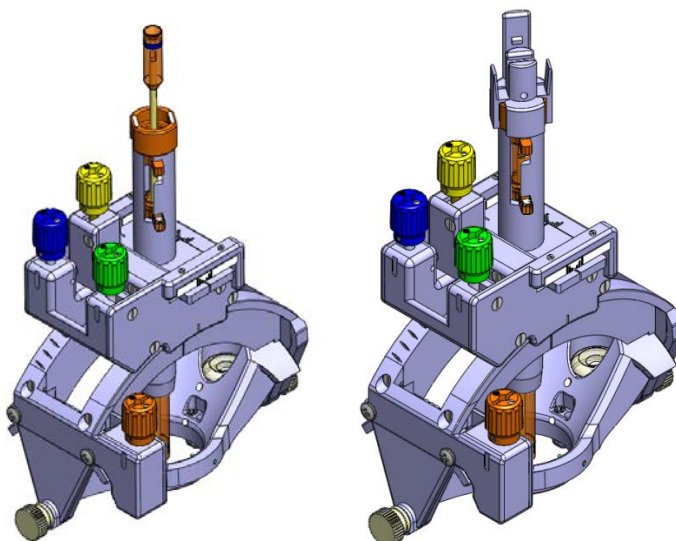

Figure 26: Assembly after Insertion
- 3.2 Insert and snap lock the Dock in place. **See Figure 26.**